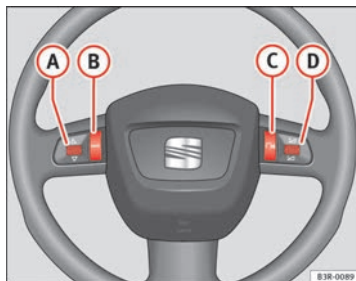

Fig. 64 Controls on the multifunction steering wheel
The functions are operated by pressing or scrolling the controls (A) to (D) on the multifunction steering wheel ⇒ fig. 64: